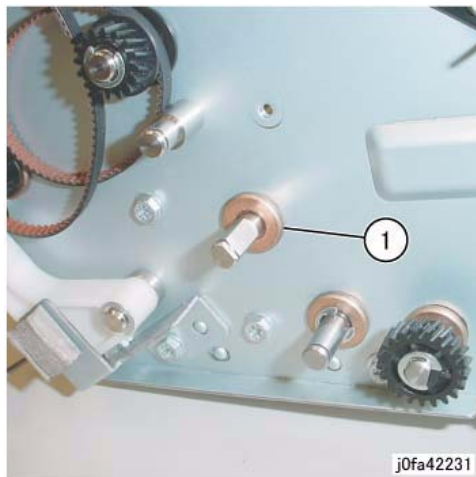

Figure 5 Removing the Bearing
- 10. Remove the Bearing (Figure 5):